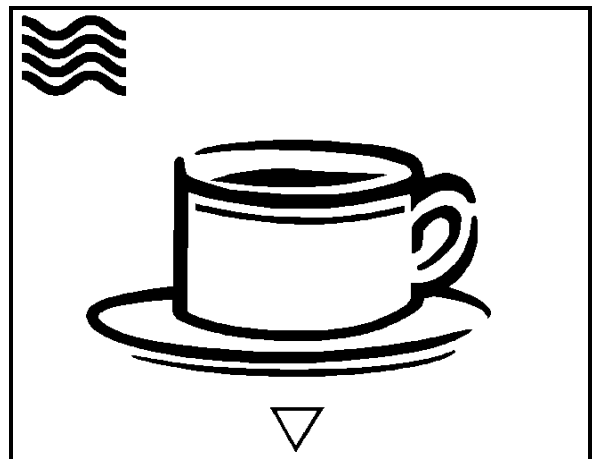

Fig. 1
When the machine requires descaling, the descaling symbol (see figure 1) appears in the display (11).